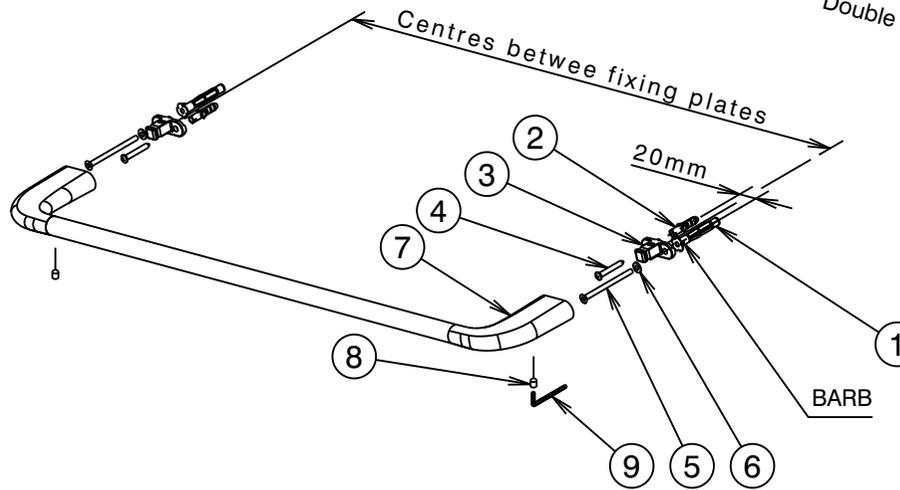

Fig. 1
- \* Distance between centres of fixing plates (3) (Fig. 1):
- \* Centre to centre of mounting plate holes is 20mm (Fig. 1)